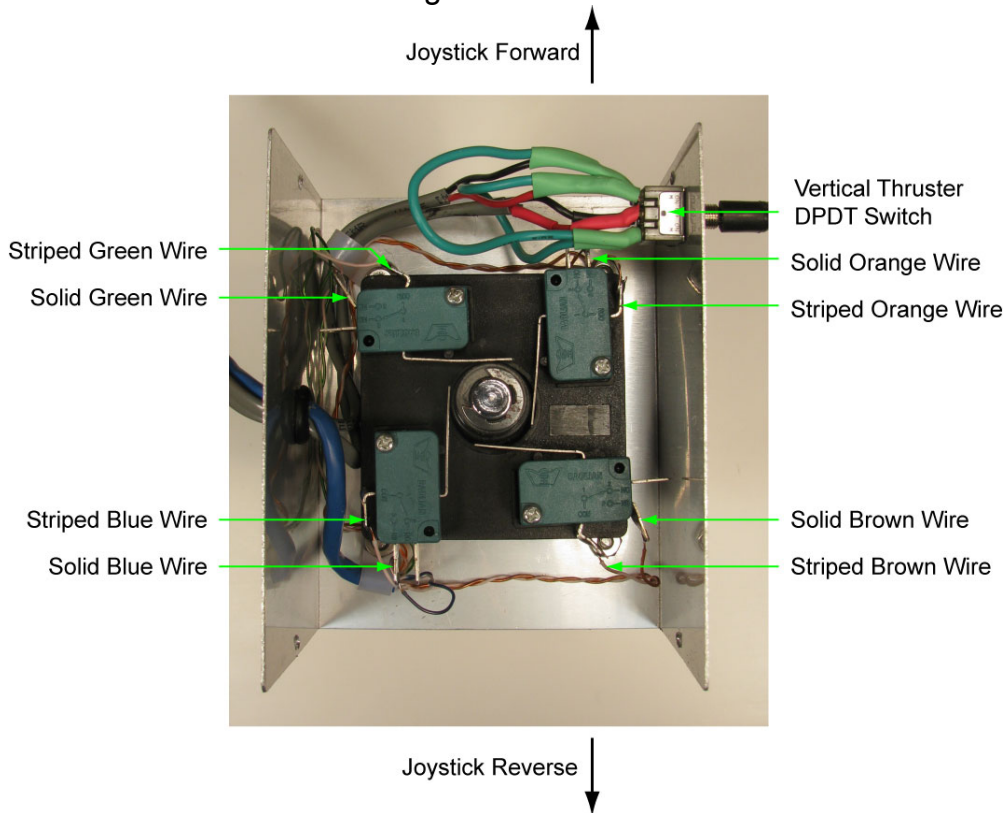
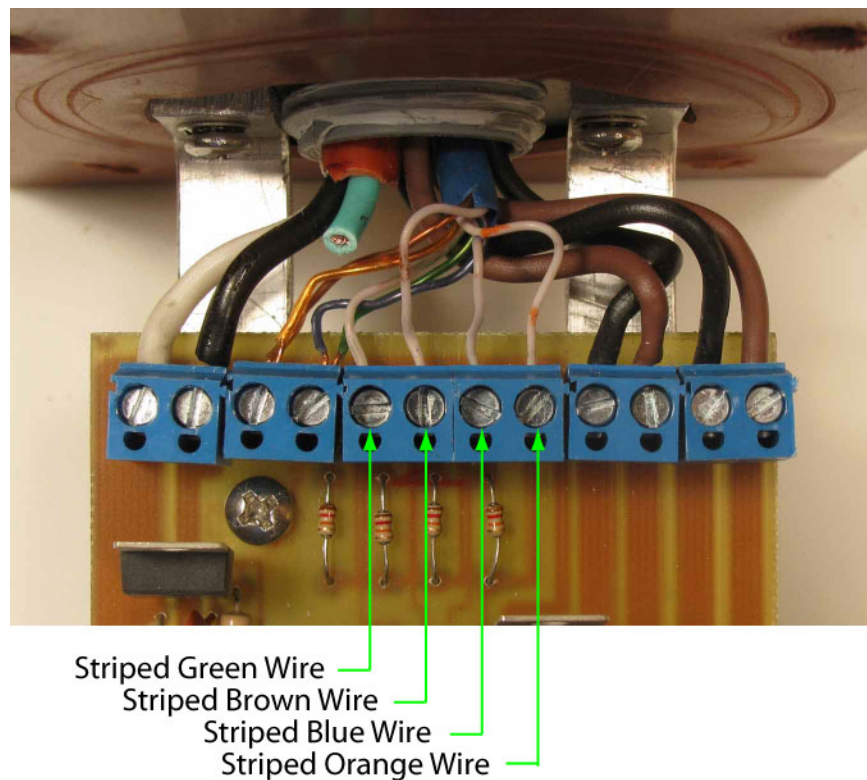

Figure 18: Control Box Cat 5e Connections
Figure 19: PCB Cat 5e Connections
- Connect the striped Cat 5e wires to the terminal blocks on PCB as shown in Figure 19. The wire order must be consistent with the control box in Figure 18.